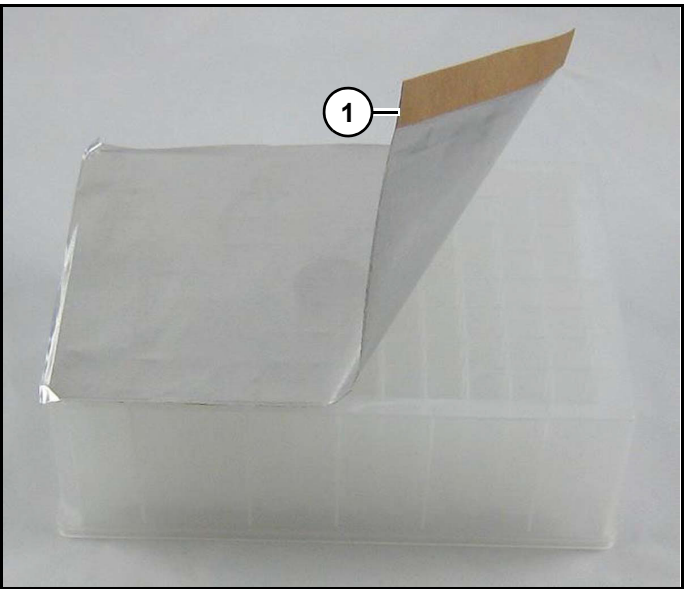

Figure 112
2. Using supplied foil seal (1) (Figure 112), apply seal to top of plate ensuring that all wells are completely covered.